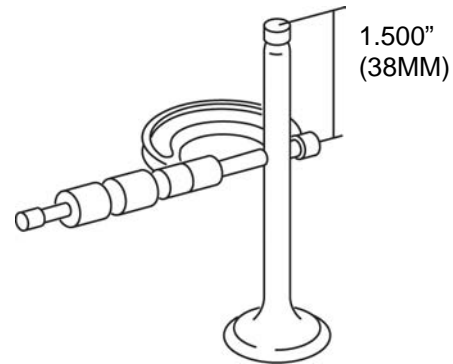

Fig. 87
1. Measure valve stem diameter at specified distance from end of valve, as shown in Fig. 87.